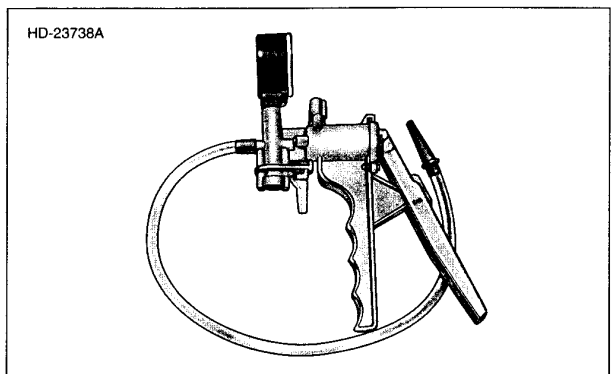

Figure 1-62. Mity-Vac Hand Pump, Part No. HD-23738-A
- Using the appropriate hose adapter, connect the PLASTIC MITY-VAC® HAND PUMP (Part No. HD-23738-A) to vacuum nipple (4) on valve. See Figure 1-62.